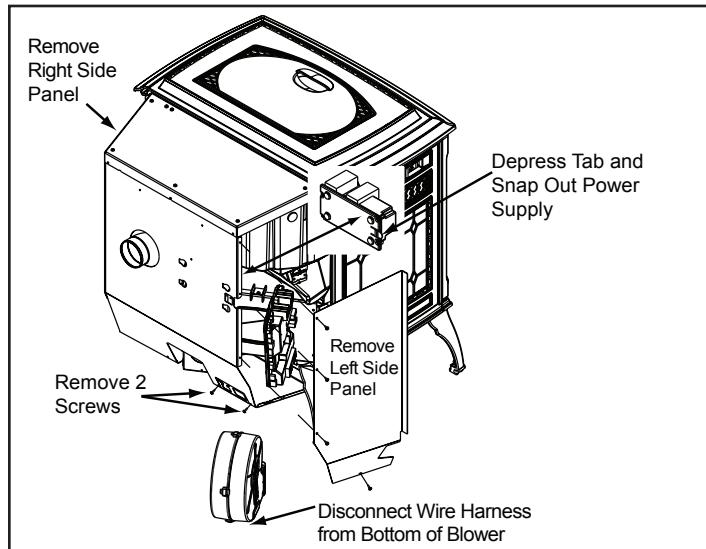

Figure 29.1
2. Remove the left and right side panels by removing the 4 screws using a Phillips head screw driver. **Figure 29.1**.
3. Depress the tab on the left side and snap out the power supply. You do not need to disconnect any wires. **Figure 29.1**.
4. Remove the 2 screws at the bottom of the back panel so there will be room to remove the blower. **Figure 29.1**
7. Disconnect the wire harness from the bottom of the blower by depressing the tabs on the sides of the connector and then pulling to remove. **Figure 29.1**.